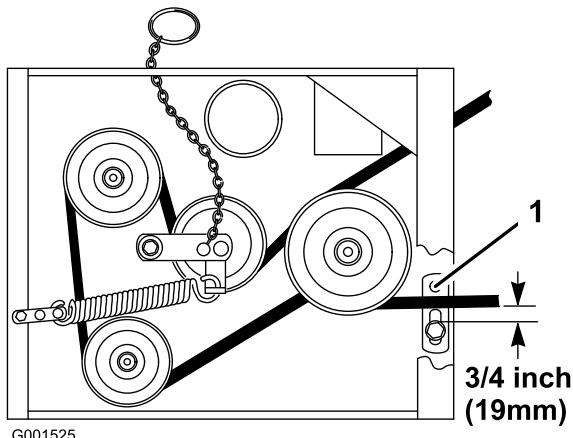

Figure 40
8. Check the belt guide under the engine frame for proper adjustment (Figure 40).
Note: The distance between the belt guide and the mower belt should be $3/4$ inch (19 mm) when you engage the mower belt (Figure 40). Adjust the mower belt as necessary. The disengaged belt should not drag or fall off the pulley when the guides and belt tension are properly adjusted.